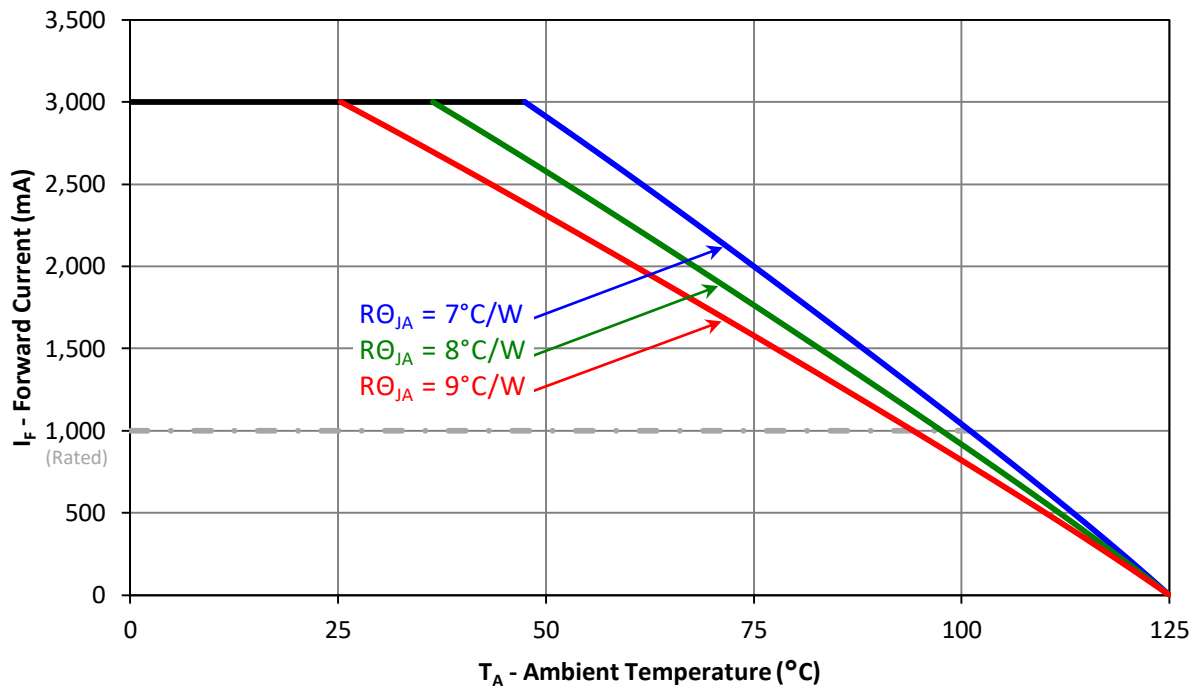

Figure 11: Maximum forward current vs. ambient temperature based on $T_{J(\text{MAX})} = 125^\circ\text{C}$.
- Maximum DC forward current is determined by the overall thermal resistance and ambient temperature. Follow the curves in Figure 11 for current derating.
Notes for Figure 11: